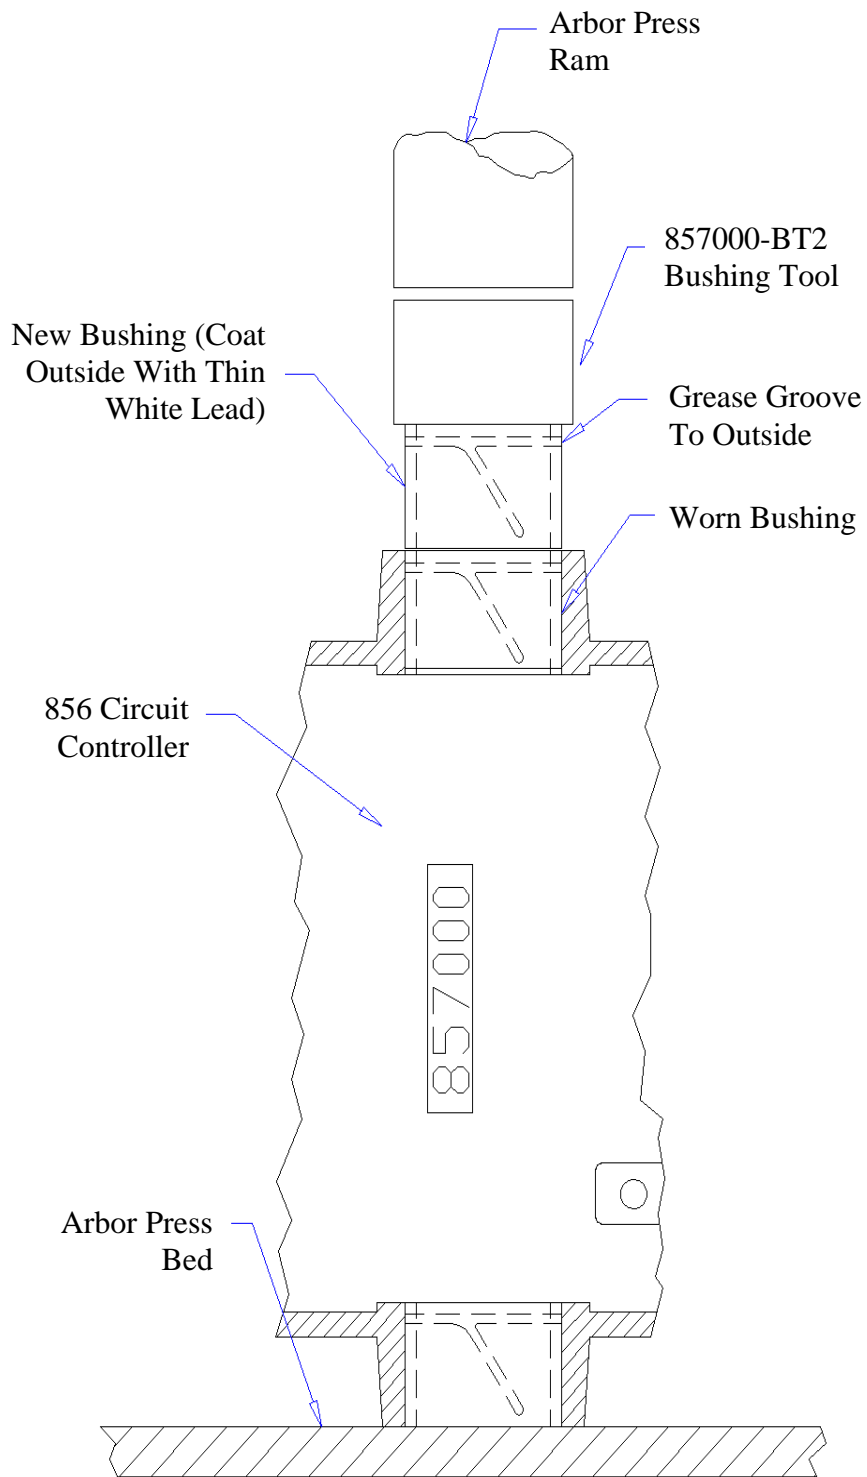

FIGURE 5-2
- H. Place a cold rolled steel-bushing tool (857000-BT2) on the new bushing as illustrated in Figure 5-2. Tool dimensions are 2 ½" x 1.498 I.D. x 2" O.D.